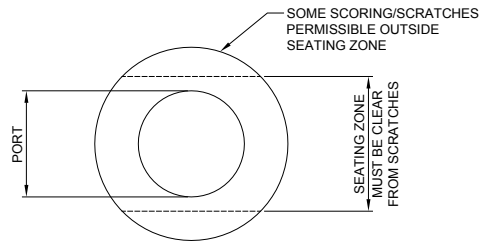

Fig. 6
8.12 Thoroughly clean all components with a suitable cleaning fluid. If there is any build-up of solids, use a blunt tool (preferably not metal) and ensure machined surfaces are not scratched. If any component shows signs of eroded or corroded leak paths or damage to machined areas, it should be replaced. The ball must have no scratches or scoring, other than minor signs of rubbing, around its seating periphery (fig. 6). Any components that do not pass inspection should be replaced.